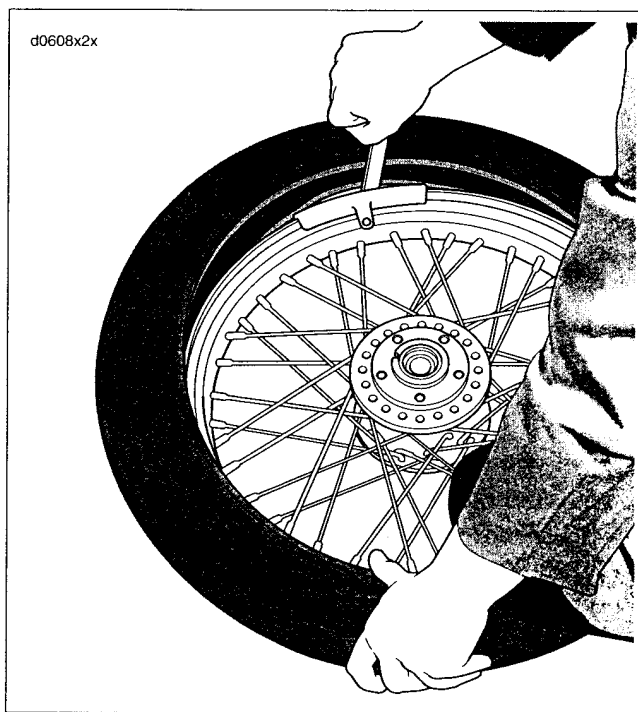

Figure 2-57. Starting Bead on Rim
3. See Figure 2-57. Starting at the valve stem, start the first bead into the rim well. Work the bead on as far as possible by hand. Use the tire tool to pry the remaining bead over the rim flange. If tire has colored dot on sidewall, it is a balance mark and should be located next to valve stem hole.